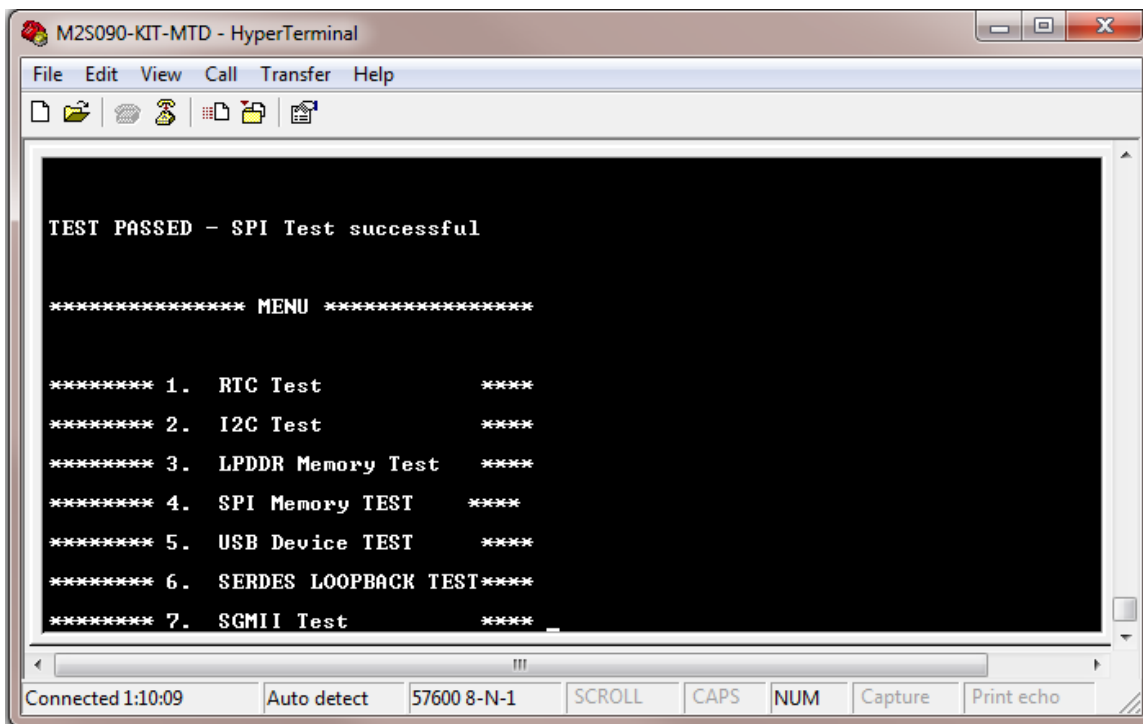

Figure 43 SPI Memory Test Passed
- When the test is passed, a message is displayed. Refer to Figure 43.